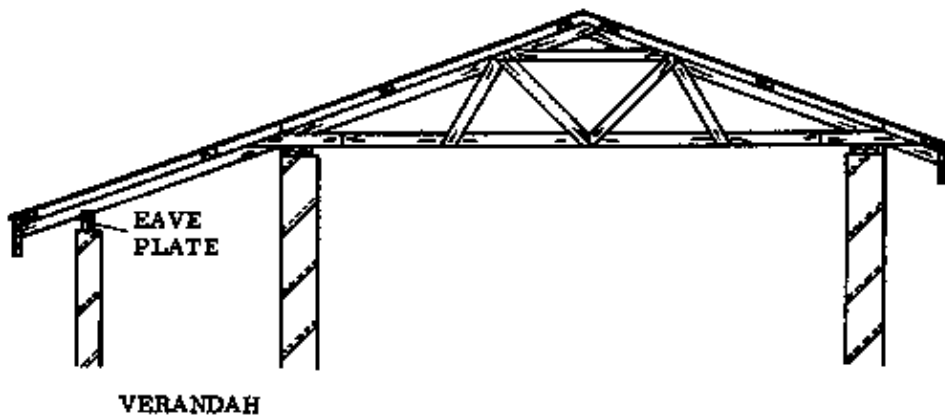

Fig. 2 EXTENDING THE RAFTERS
- By extending the rafters to cover the verandah (Fig. 2).
– **EXTENDING THE RAFTERS:** The overhanging rafters cover the verandah. Note that the building must be high enough so that the lower edge of the verandah is not inconveniently low (Fig. 2). This construction can be used with either an ordinary pent roof or a parapetted pent roof as well as with a gable roof.